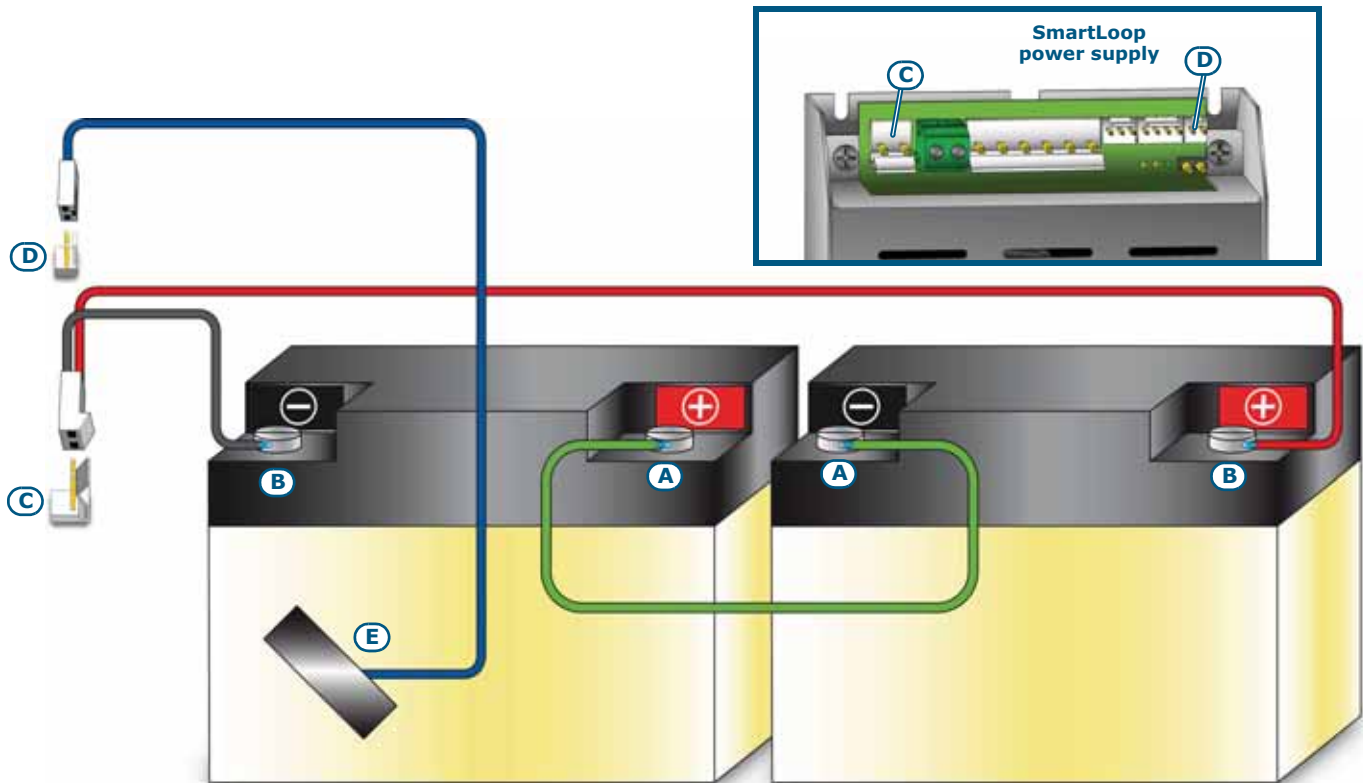

Figure 27 - Connecting the batteries
2. Using the battery wire (*Figure 27 - [A]*), connect the batteries together.
3. Connect the wire with the eyelet terminals (included) to the terminals of the batteries (*Figure 27 - [B]*).
4. Connect the battery wire connector (*Figure 27 - [C]*) to the connector of the power supply module (*paragraph 4.4 - [C]*).
Using a strip of strongly-adhesive insulating tape (*Figure 27 - [E]*), attach the Thermal probe to one of the batteries, in such a way as to provide optimized heat-transfer measurements.